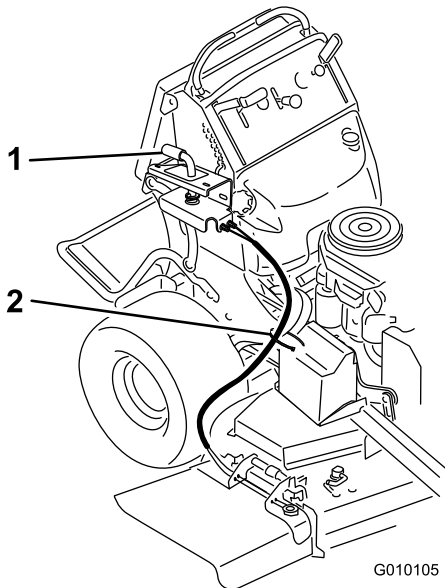

Figure 4
2. Fasten the cables to the machine with a plastic tie (Figure 4). Ensure the cables do not contact the rear tire.